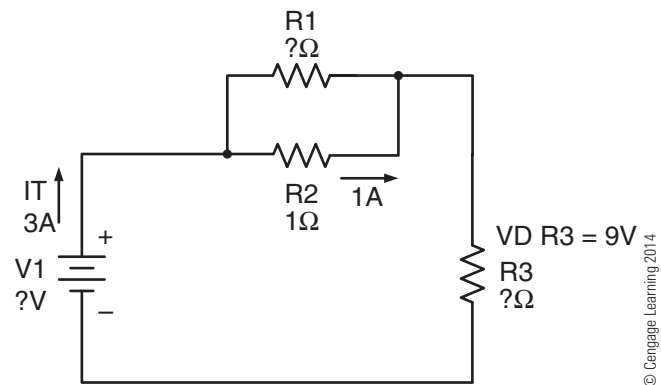

Figure 2-63
19. Referring to **Figure 2-63**, the voltage dropped across R3 is 9V. Find the following: